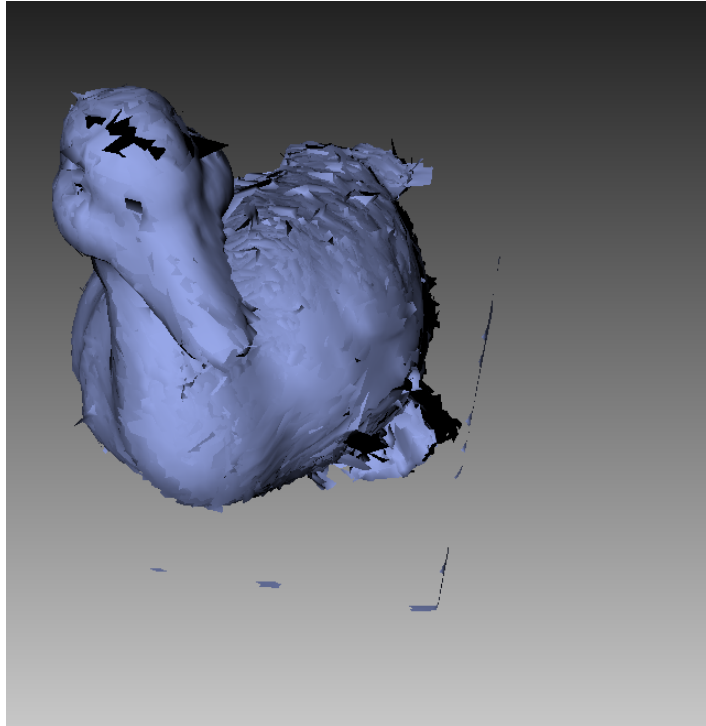

Figure 8.27: Alignment result.
4. Click *Align...* to run the alignment with your specified constraints (Figure 8.27 shows example results). If you are dissatisfied with the alignment results, click ↶ and specify additional point sets, or reposition the current sets. To redo an operation that you have undone, click ↷.